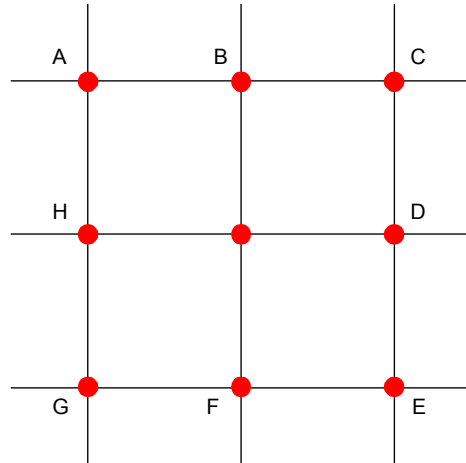

Figure 3.4. Draw the measured electric field vectors at the dots.
- Connect the 5V supply to the + and - contact points on the conductive paper, labeled #1, that resembles point charges. This causes a separation of charge between the contact points. In the space between the points of separated charge there exists an electric field. The electric field in V/m within the conductive paper can be measured using a volt meter with the special 1cm probe separator. Using the procedure, described above, measure the electric field at each of the white dots. Then sketch each of the associated field vectors in Figure 3.4.